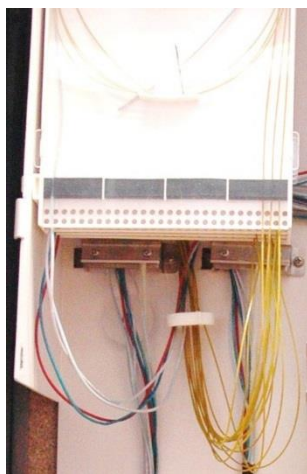

Figure 4
2. Place the tube in the cassette using a slot at the left-hand side. See fig 4.